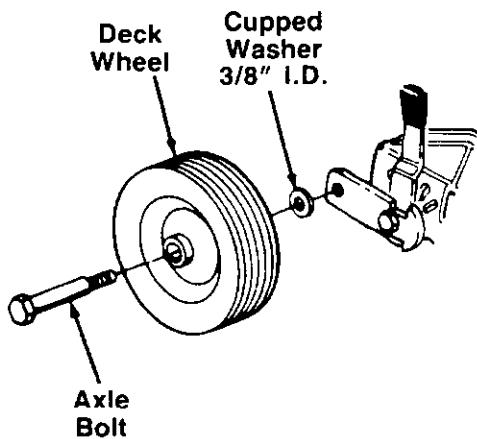

FIGURE 10.
1. Assemble the deck wheels by placing wheel on the axle bolt, then the 3/8" I.D. cupped washer (crown side against the wheel). Secure to wheel pivot bar, using a 15/16" wrench. See figure 10.